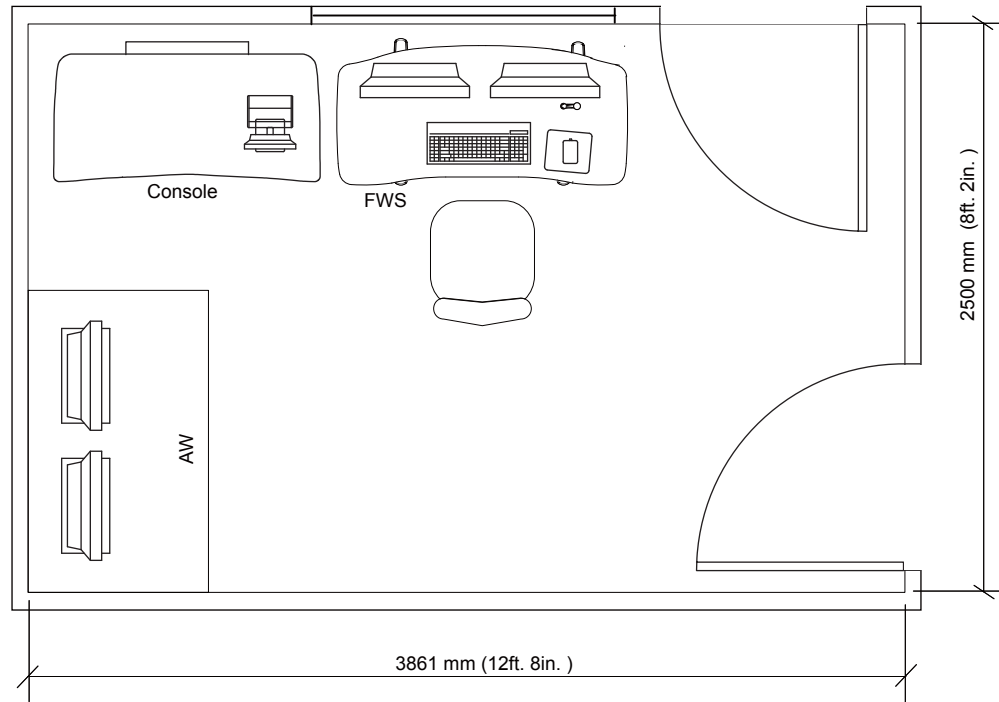

Figure 4-5 Recommended Control Room Layout with Freedom Workspace (FWS)
The console does not present an exposed live parts hazard. However, a minimum working space depth of 1219.2 mm (48 in.) and full width of the console be maintained at all times for service activity. Additionally sufficient space needs to be provided for repositioning of the console and side clearance for rear service access. Egress as well as other service requirement shall be considered when siting the console. See Figure 4-5 for a Recommended control room layout.
- Console with FWS: Console + Freedom Workspace Table (See Figure 4-5).